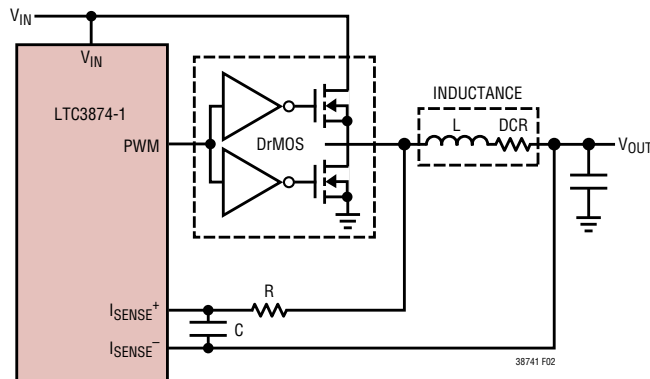

Figure 2 Inductor DCR Current Sensing
I_{SENSE}⁺ and I_{SENSE}⁻ are the inputs to the current comparators. When the LOWDCR pin is high, their common mode input voltage range is 0V to 3.5V. I_{SENSE}⁻ should be connected directly to V_{OUT} of the master controller. I_{SENSE}⁺ is connected to an R • C filter with time constant one-fifth of L/DCR of the output inductor. Care must be taken not to float these pins during normal operation. Filter components, especially capacitors, must be placed close to the LTC3874-1, and the sense lines should run close together to a Kelvin connection underneath the current sense element. The LTC3874-1 is designed to be used with a sub-milliohm DCR value; without proper care, parasitic resistance, capacitance and inductance will degrade the current sense signal integrity, making the programmed current limit unpredictable. In Figure 2, resistor R must be placed close to the output inductor and capacitor C close to the IC pins to prevent noise coupling to the sense signal.
The LTC3874-1 is specifically designed for high load current applications requiring the highest possible efficiency; it is capable of sensing the signal of an inductor DCR in the sub-milliohm range (Figure 2). The DCR is the DC winding resistance of the inductor's copper, which is often less than 1mΩ for high current inductors. In high current and low output voltage applications, conduction loss of a high DCR or a sense resistor will cause a significant reduction in power efficiency. For a specific output requirement, choose the inductor with the DCR that satisfies the maximum desirable sense voltage, and use the relationship of the sense pin filters to output inductor characteristics as depicted below.
4. Keep the switching nodes (SW1, SW0), away from sensitive small-signal nodes, especially from the opposite channel's current sensing feedback pins. All of these nodes have very large and fast moving signals and therefore should be kept on the output side of the LTC3874-1 and occupy minimum PC trace area. If DCR sensing is used, place the resistor (Figure 2, "R") close to the switching node.